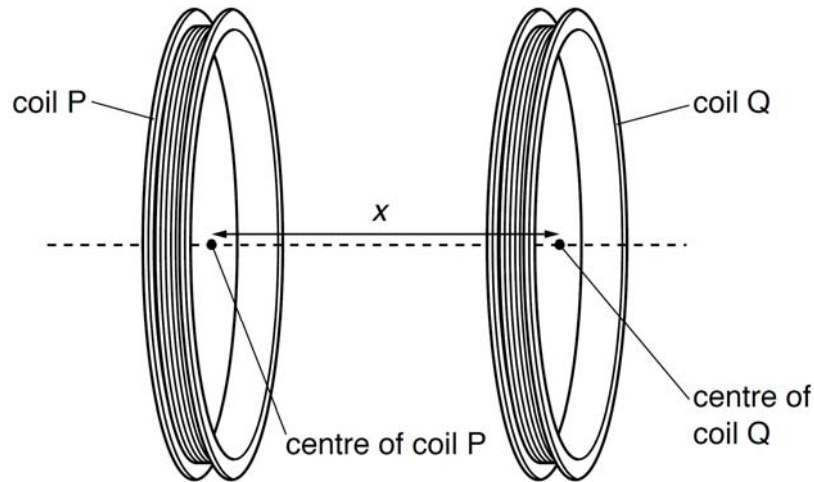

Fig. 4.1
- 4 A circular coil P carrying an alternating current produces a changing magnetic field. When a second similar coil Q is placed with its centre a distance  $x$  from the centre of coil P, as shown in Fig. 4.1, an electromotive force (e.m.f.) is induced in coil Q.